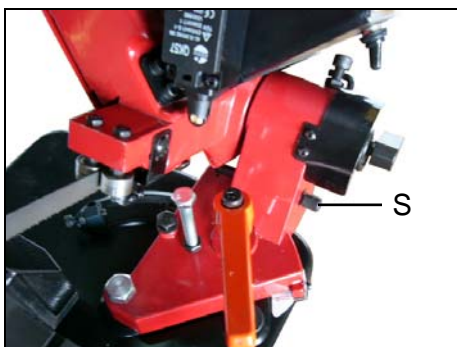

Fig. 16
- Raise this saw head up-to approximate 80 degree by lifting up the arm, and push in the position pin S in Fig.16 to support the arm.